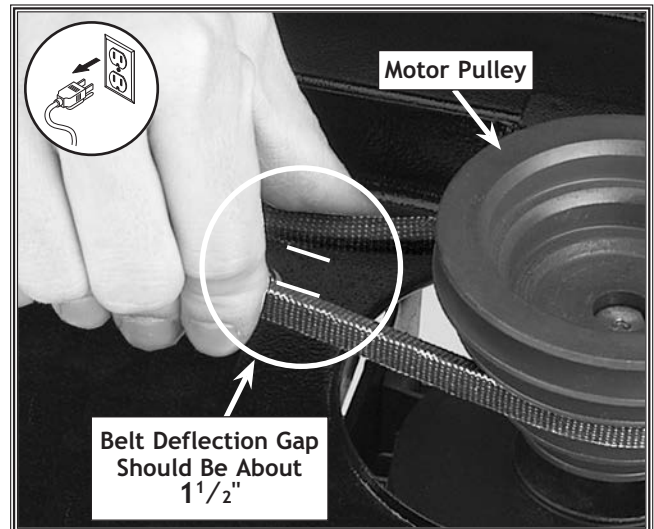

Figure 27. Measuring belt deflection.
6. Tighten the lock screw, and make sure the belt deflection gap is correct when pinched together between the pulleys (see **Figure 27**).